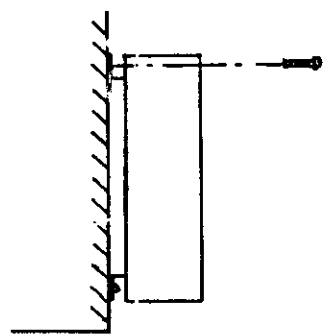

Fig.34
- 5 Secure the PFU at the upper and lower locations to the backboard using wood screws provided (Fig.34).